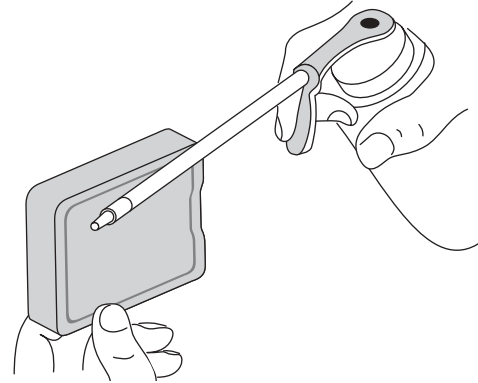

Fig. 24
4. Apply enough clean SAE 30 motor oil to lightly coat the filter (Fig. 24).